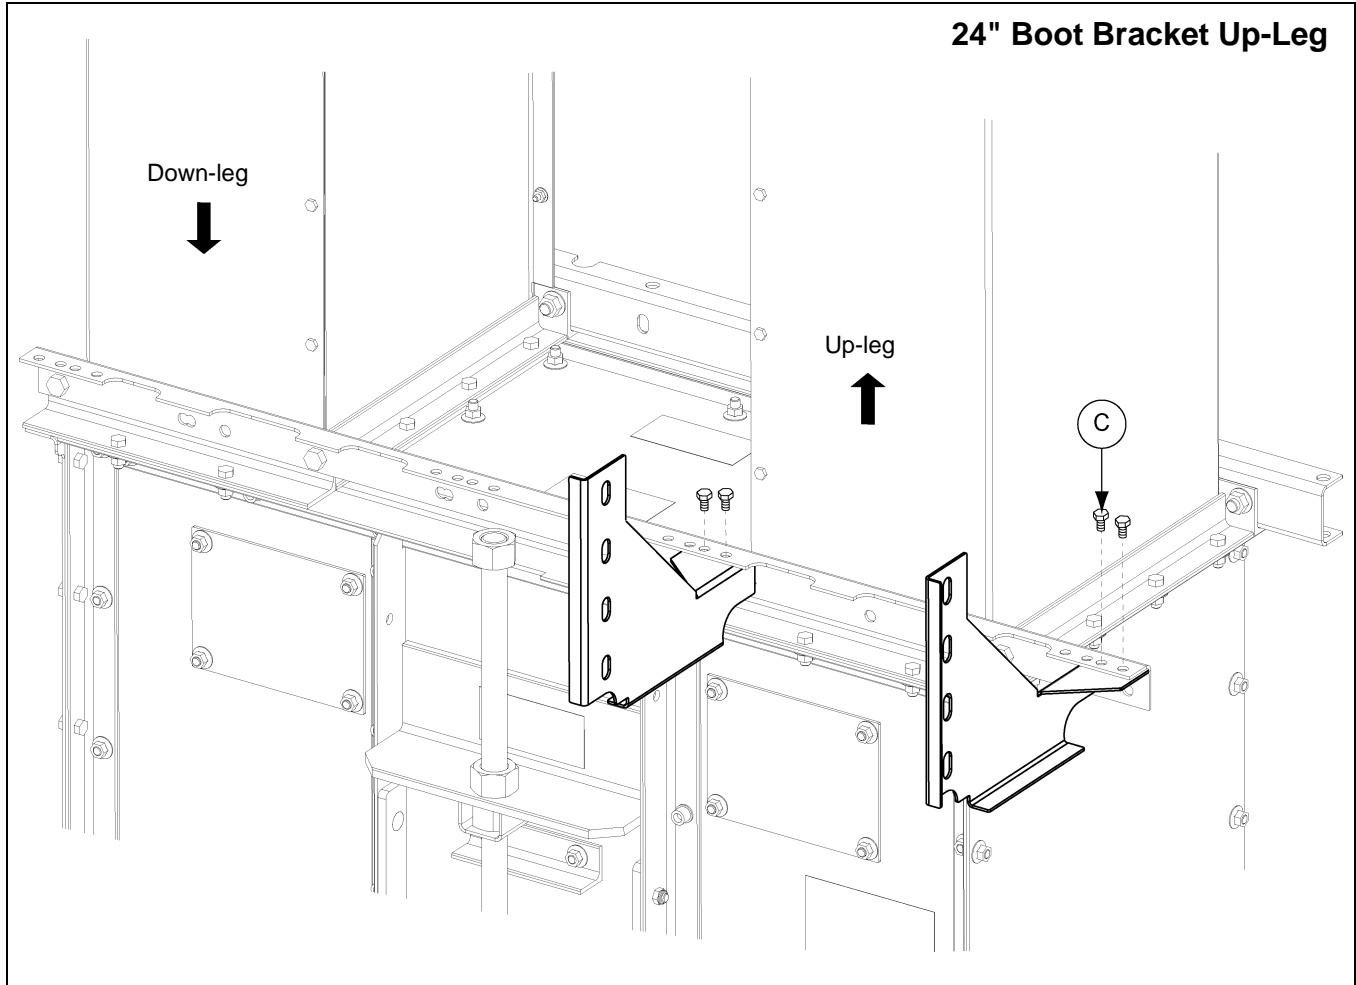

Figure 6F 24" Boot Bracket Up-Leg
- d. **24" Up-leg boot bracket:** Use 3/8" x 1" hex bolts to attach the ladder support brackets to the boot tie angle using the holes indicated in *Figure 6F*. Note the outer bracket uses the two (2) outer most set of holes on the tie angle.